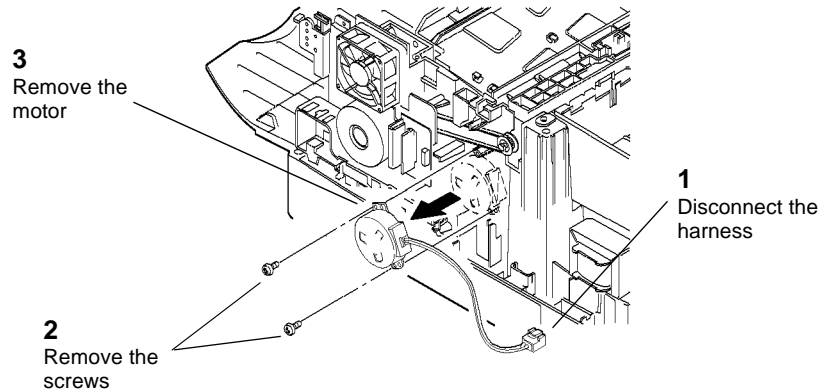

Figure 1 Removing the Toner Motor
4. (Figure 1): Remove the Toner Motor.